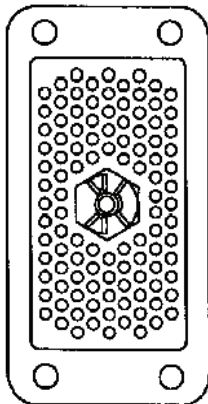

Figure 1. MIL-DTL-28804 Typical Connector
2. This Work Package (WP) covers environmental and non-environmental polarized subminiature connectors manufactured in accordance with MIL-DTL-28804. These connectors are designed for -67°F (-55°C) to +257°F (+125°C) operating temperature (Figure 1).